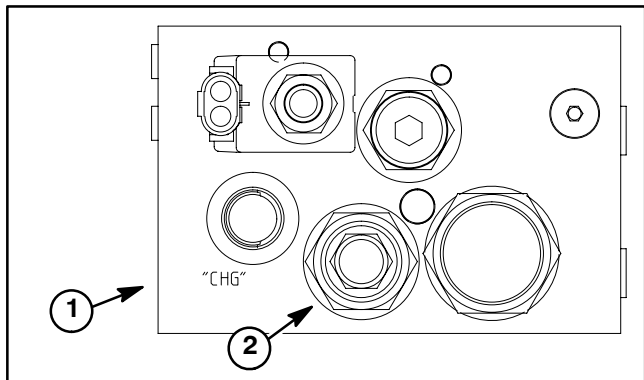

Figure 35
6. Pressure reducing valve (PR) is located on the lower, front side of the 2WD/4WD control manifold (Fig. 35). Adjustment of this valve can be performed as follows: